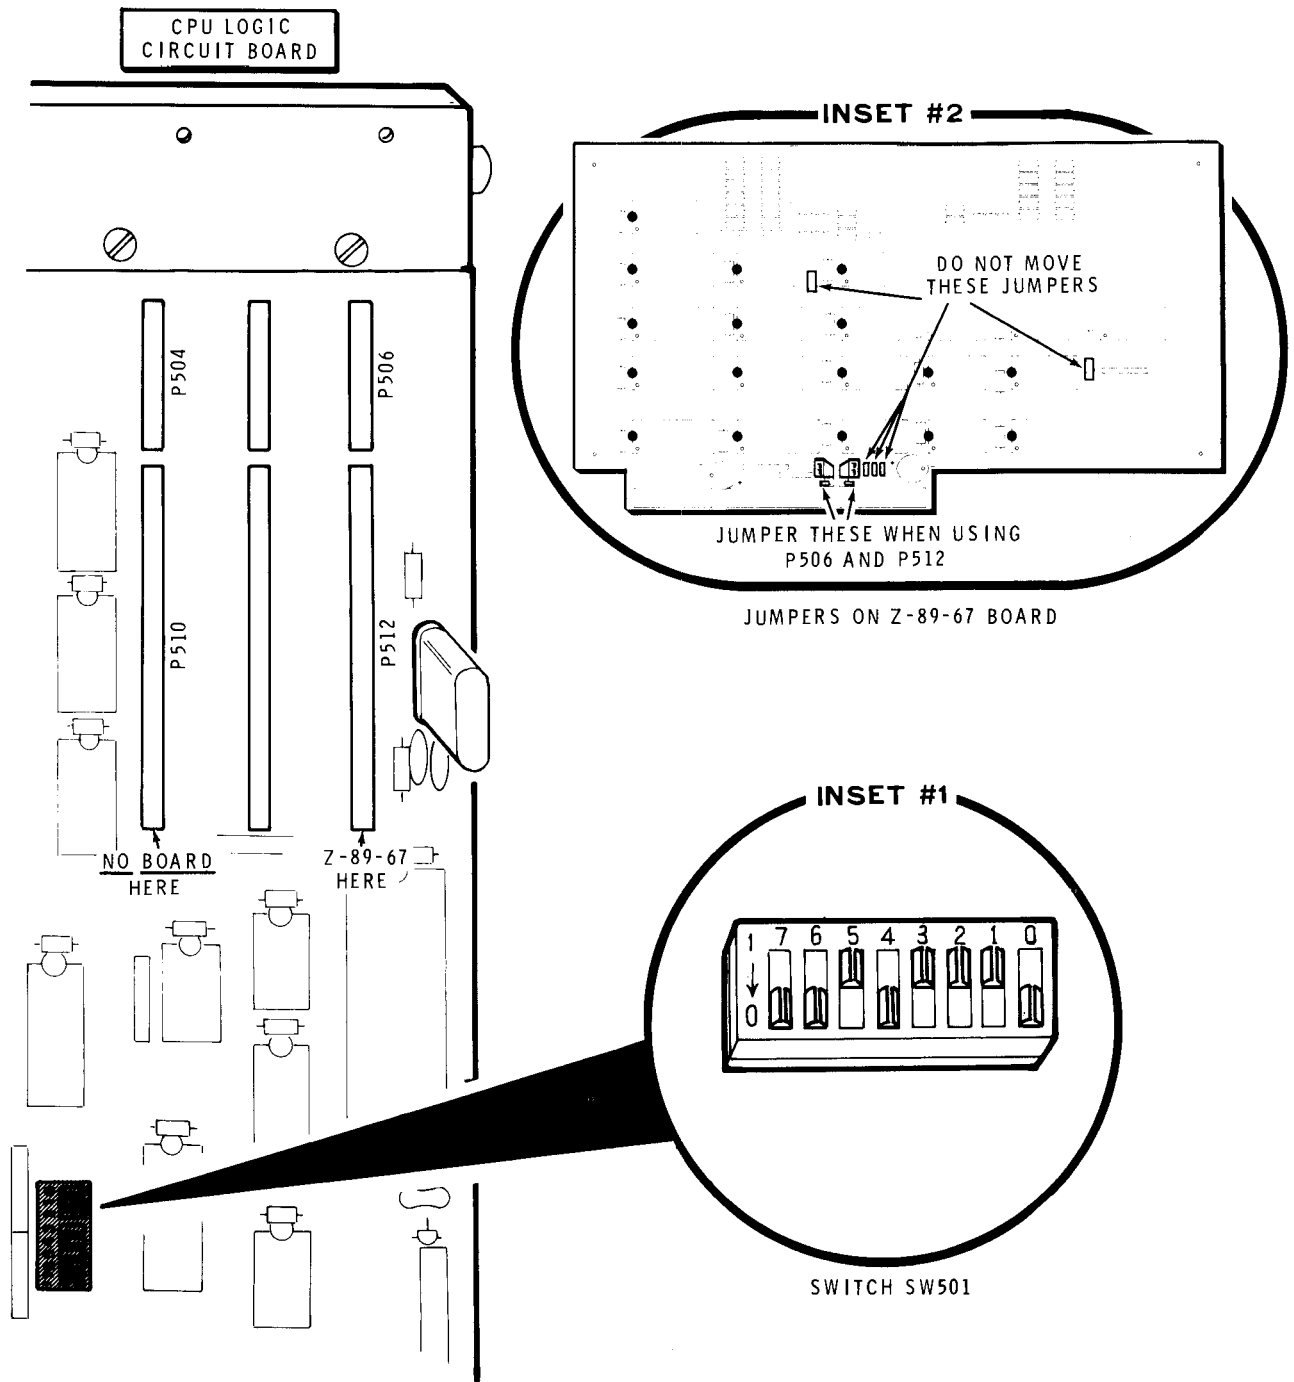

Figure 6-8
4. **None of the Above**, install your Interface Board as shown in Figure 6-8 on Page 6-11. Set switch SW501 as shown in inset drawing #1, and the jumpers as shown in inset drawing #2.